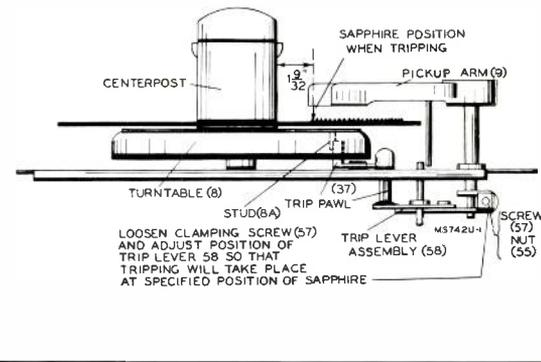

Figure 1: RP-168 Changer
Assemble pickup arm and trip lever assemblies as shown (Figure 1). Leave clamping screw (57) loose enough to permit trip lever to move horizontally on the shaft. Turn eccentric landing adjustment stud screw to determine outward and inward adjustment limits, and then set screw to its mid position. Hold the trip lever and move pickup arm inward or outward until mechanism trips when stylus is 1-9/32" from